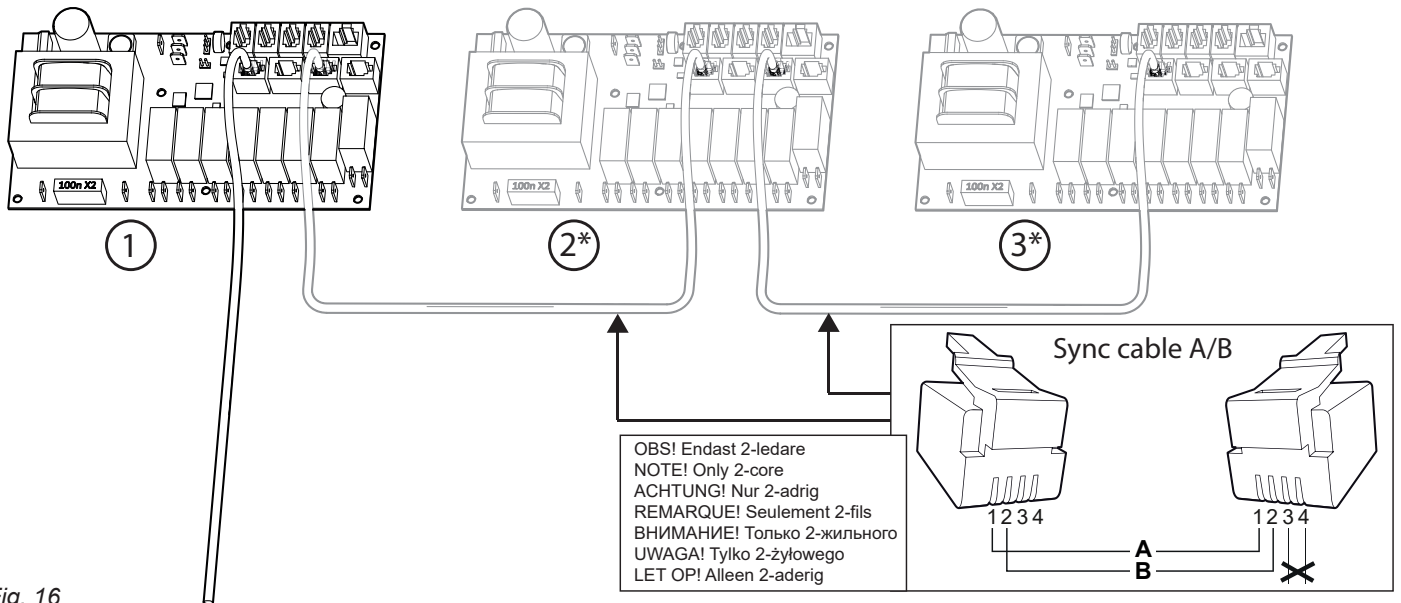

Fig. 16
The connections between the generators use a low power cable (2 core, RJ10 2P4C A/B) with an RJ10 connector, (Fig. 16.) Refer to the section "Modular connector description" (Fig. 17) for more information on the pin configuration.
If one steam generator needs servicing the others can remain in operation. One generator that is set as a secondary is disconnected by removing the cable from between the circuit boards. (Fig. 16)
2. Disconnect the cable that connects the control circuit boards (Fig. 16)